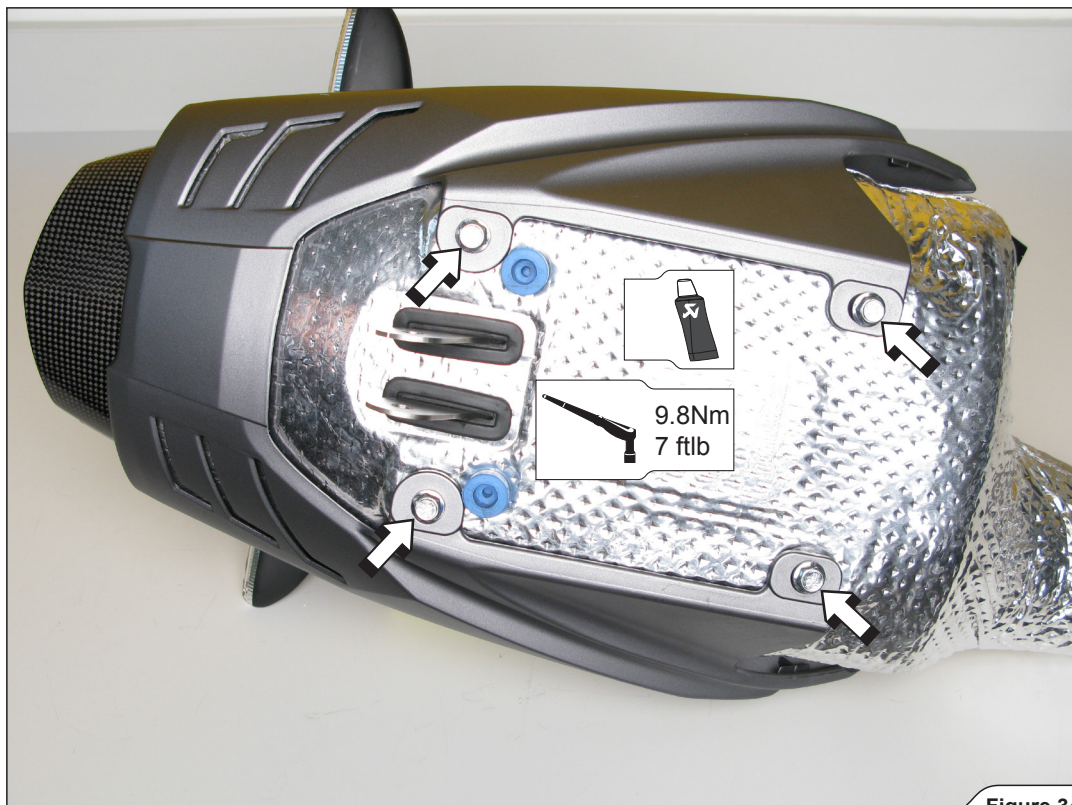

Figure 34
13. Install stock heatshield onto the muffler bracket, using Akrapovič M6x25 bolts (Figure 34).